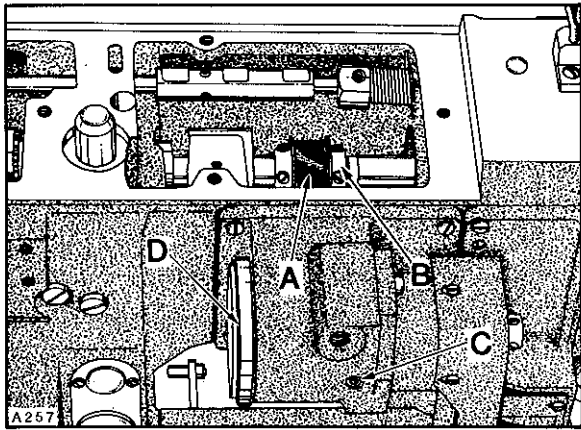

Fig.31
inch (3.2mm) deflection in puller drive belt (A, Fig. 31) when pressing firmly between sprocket (B) and puller drive assembly. Adjustment can be made by loosening one screw (C) securing eccentric (D) and rotate eccentric counterclockwise as viewed in (Figure 31), to tighten belt, clockwise acts the reverse. Be sure to maintain .006-.010 inch (.150-.254mm) between eccentric and drive housing. Tighten screw (C) securely. When assembling top cover, care must be taken to center oil flow indicator in center of oil filler cap.